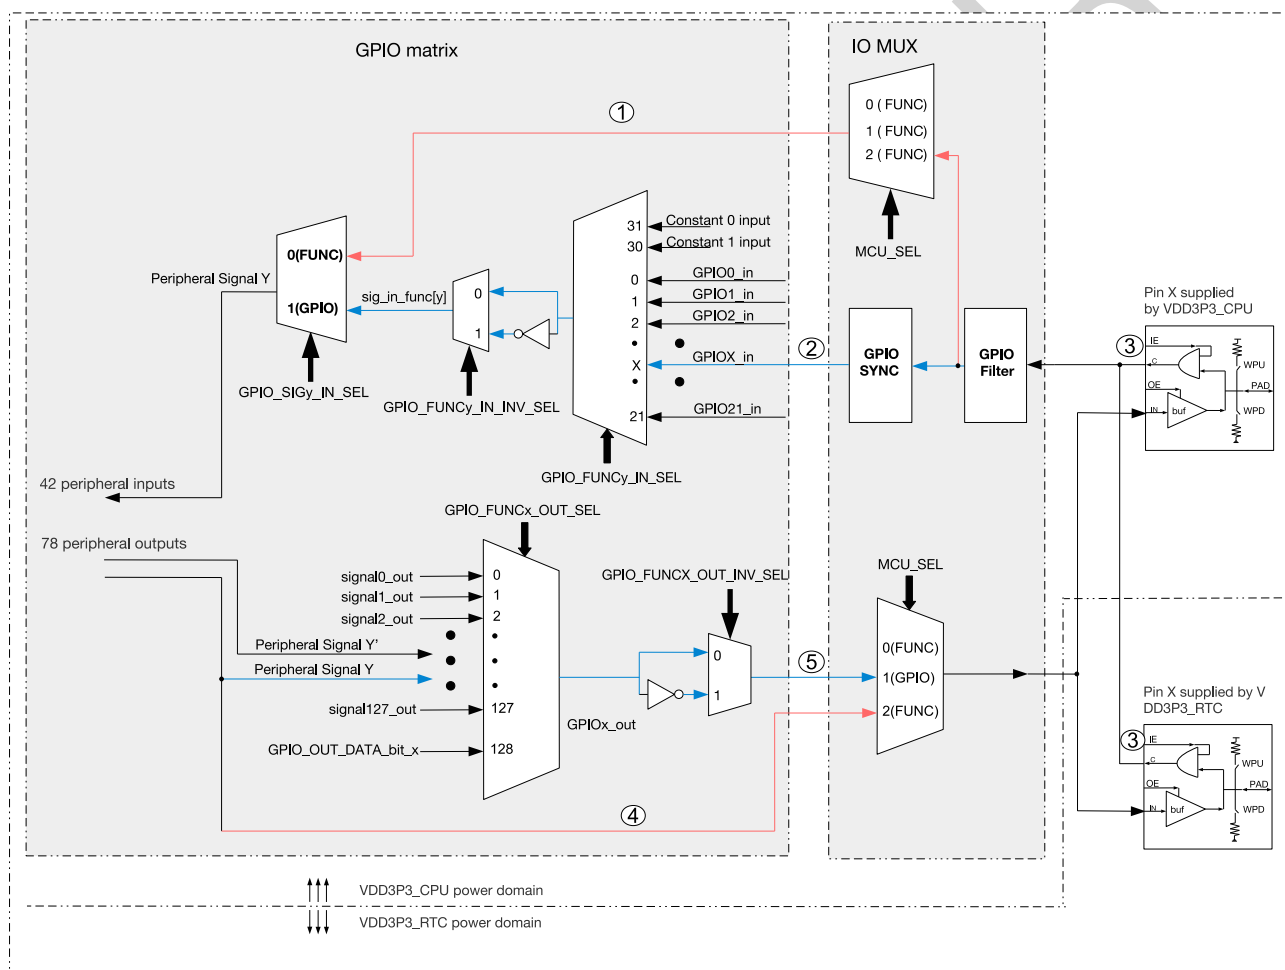

Figure 5-2. Architecture of IO MUX and GPIO Matirx
- Figure 5-2 shows in details how IO MUX and GPIO matrix route signals from pins to peripherals, and from peripherals to pins.
When signals are directed from pins using GPIO matrix, the signals will be synchronized to the APB bus clock by GPIO SYNC hardware, then go to GPIO matrix. This synchronization applies to all GPIO matrix signals but does not apply when using the IO MUX, see Figure 5-2.
Some of the 78 output signals (signals with a name assigned in the column "Output signal" in Table 5-1) can be set to go through GPIO matrix into IO MUX and then to a pin. Figure 5-2 illustrates the configuration.